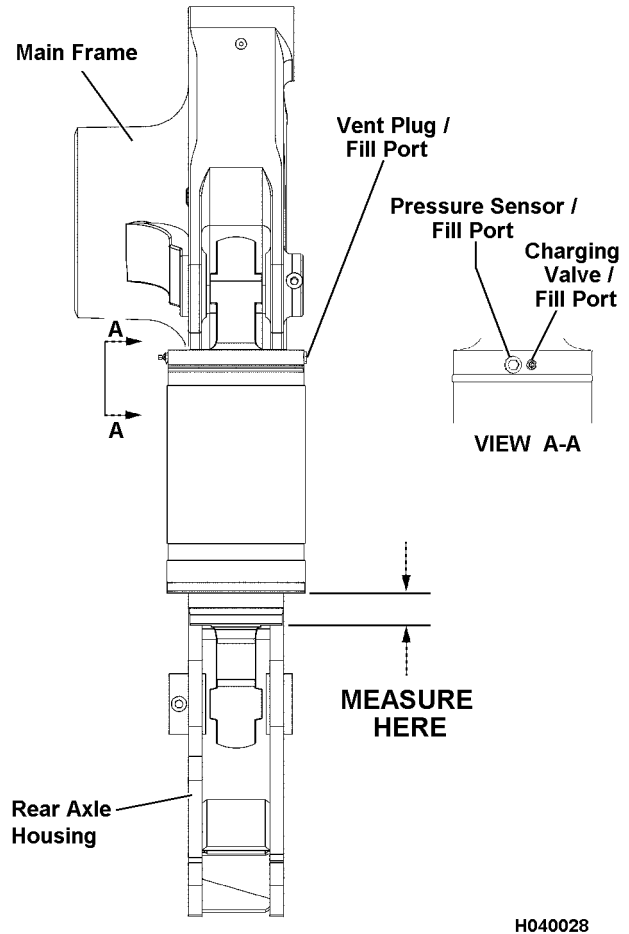

FIGURE 4-5. REAR SUSPENSION
4. Remove the vent plug, pressure sensor, and charging valve (see Figure 4-5). Use one of the open ports to fill the suspension with clean Hydrair® oil (with 6% friction modifier). Fill until clean oil seeps from the open ports. Use drip pans and clean all spillage from the outside of the suspension.
5. Slowly release gas until the suspensions match the pressure listed in the table below Figure 4-5.